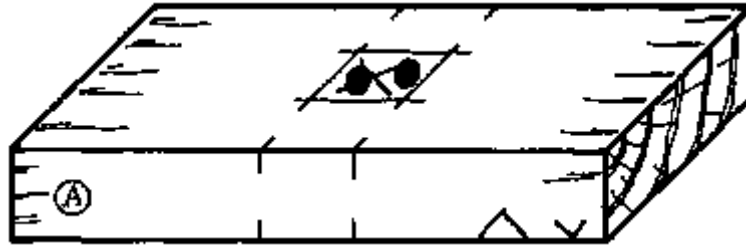

Fig. 6
- Bore out most of the waste, using a brace and bit (Fig. 6). Clamp a piece of wood to the underside to prevent splintering and damage to the bench.